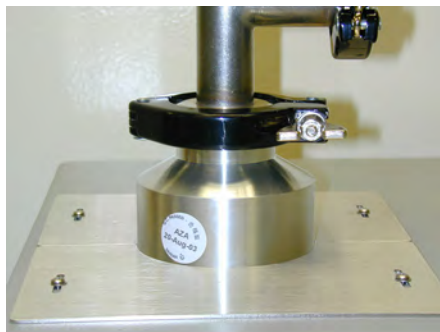

Figure 1-2 KF Input Connection
- ❑ KF – uses a quick clamp connector (Figure 1-2):